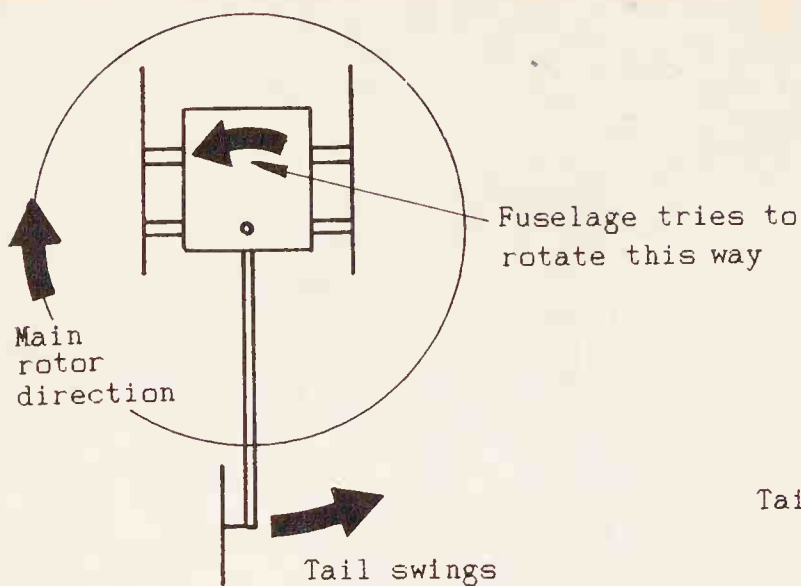

Fig. 50 Torque reaction.
- (a) First of all establish which way your main rotor will be turning. Let's assume for the moment that it rotates in a clockwise direction when viewed from the top. The torque reaction produced by the motor in turning the rotor will make the whole helicopter try to rotate in an anti-clockwise direction (Figure 50) and the tail will tend to swing to the right.